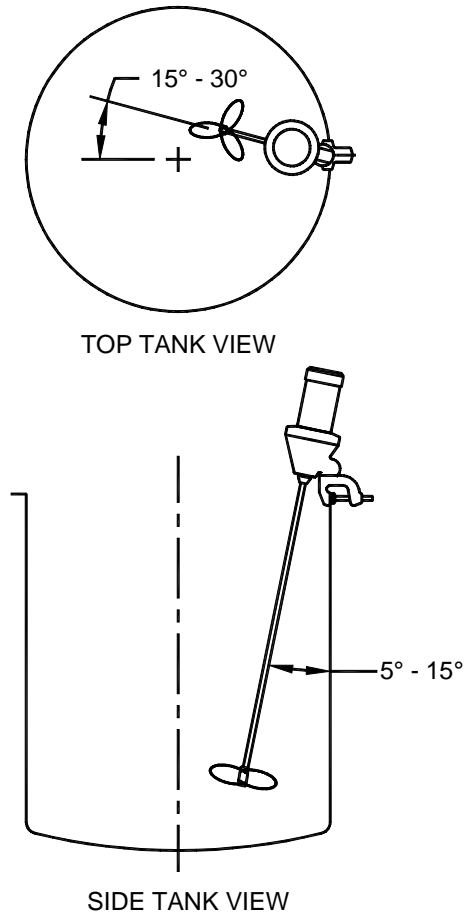

Figure 1: Model 50DTC, Installation
- b. After orientation of mixer is determined (reference *Figure 1, page 5*), torque hex nut [155] in the socket area to 50 ft-lb (67.8 Nm).
7. In operation, some adjustments of position may be required to obtain best mixing results. Adjust orientation of mixer as shown in *Figure 1*, below for best top to bottom flow and optimum mixing efficiency. Both the clamp and cup plate mount assemblies provide for 3-dimensional adjustment